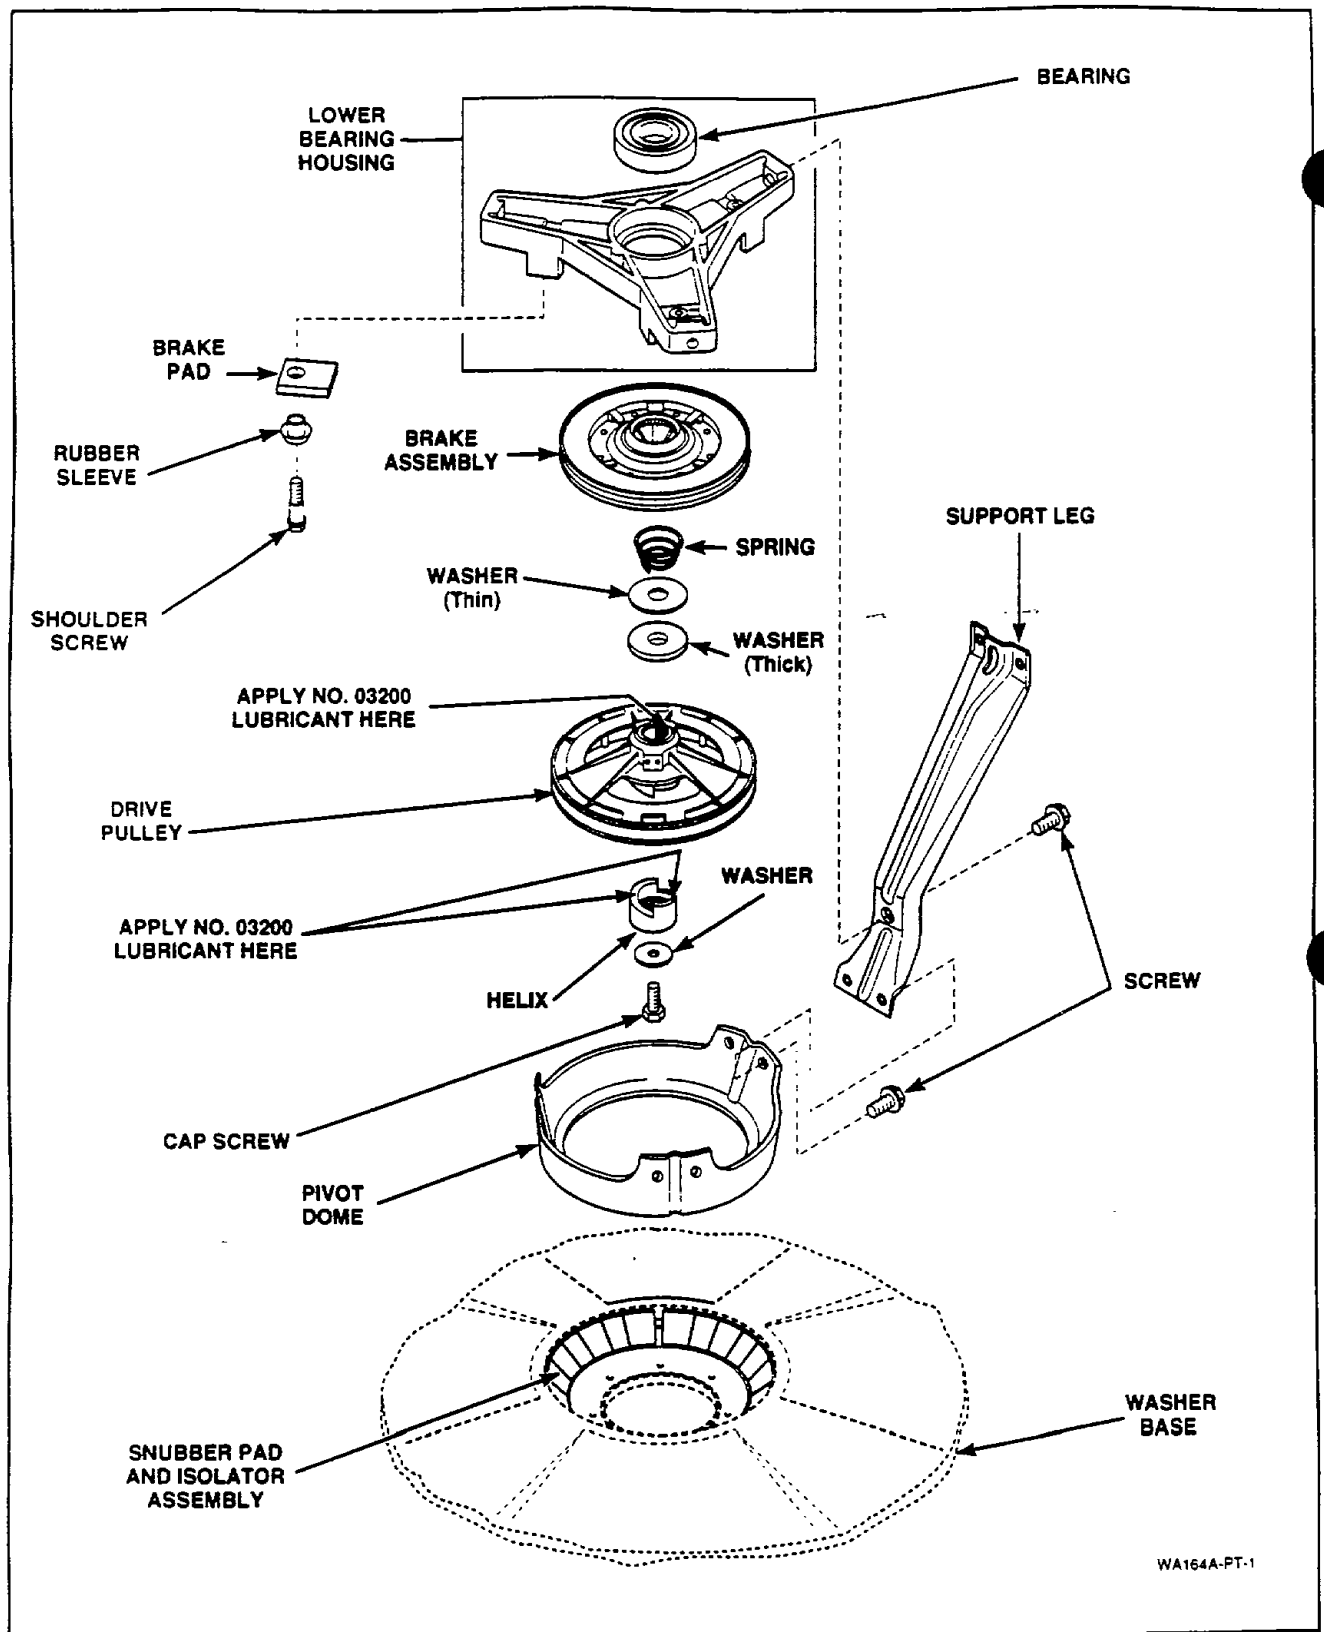

Figure 61
NOTE: When reinstalling pulley, place a small amount of No. 03200 Lubricant to the top side of the drive pulley that will be contacting the large flat washers. Lubricate the helix ramps and bore with a small amount of No. 03200 Lubricant. See *Figure 61*.
NOTE: When reinstalling pulley, place a small amount of No. 03200 Lubricant to the top side of the drive pulley that will be contacting the large flat washer. Lubricate the helix ramps and bore with a small amount of No. 03200 Lubricant. See *Figure 61*.
IMPORTANT: The two large flat washers must be in place between spring and drive pulley when reassembling. The thicker washer must contact the top side of the drive pulley. See *Figure 61* for assembly sequence.
NOTE: When reassembling, place a small amount of No. 03200 Lubricant to top side of the drive pulley that will be contacting the large flat washer. Lubricate helix ramps and bore with a small amount of No. 03200 Lubricant. See *Figure 61*.
- o. Using a right angle needle nose pliers, remove spring from around lower transmission tube (located inside brake assembly), *Figure 61*.
- p. Remove three screws holding brake pads, rubber sleeves and brake assembly to lower bearing housing, *Figure 61*, then remove brake assembly and pads off bottom of transmission assembly.
NOTE: Refer to *Figure 61* for assembly sequence.
- Remove two large flat washers from transmission shaft, *Figure 61*.
NOTE: When reassembling, place a small amount of No. 03200 Lubricant to top side of drive pulley that will be contacting the large flat washer. Lubricate helix ramps and bore with a small amount of No. 03200 Lubricant. See *Figure 61*.